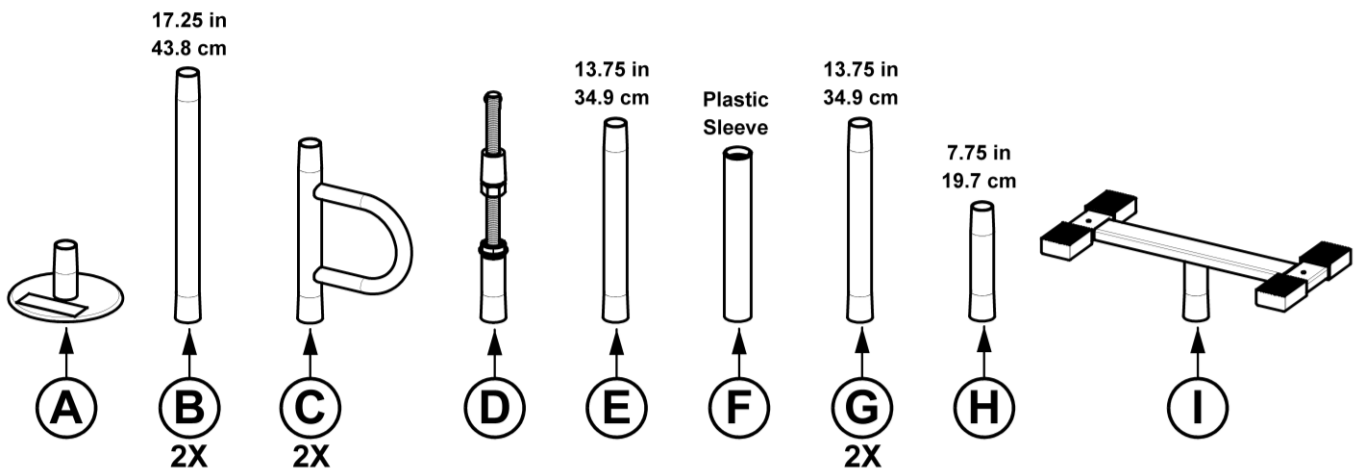

FIGURE 1
1. Remove product from box and identify all parts as shown in *FIGURE 1*. For extra security, see step 6 prior to assembly.